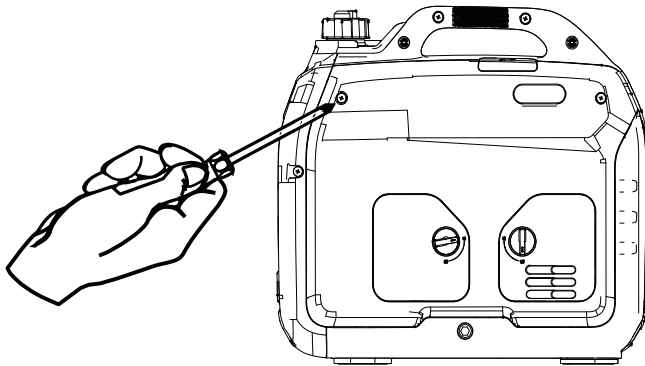

Figure 1: Engine Service Panel
1. Loosen the screw and remove the engine oil fill/drain plug service panel to access the oil fill/drain plug (see Figure 1)